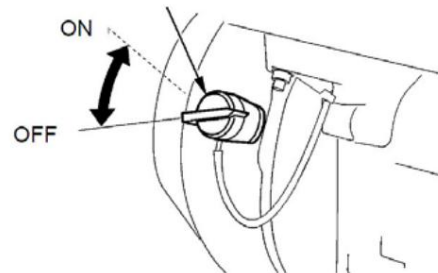

Fig. 20: Turn on the ignition switch
To stop the engine in an emergency, simply turn the ignition switch (Fig.20) to the "OFF" position.
Step 2: Now turn on the ignition switch of the engine (Fig.20) to "OFF".